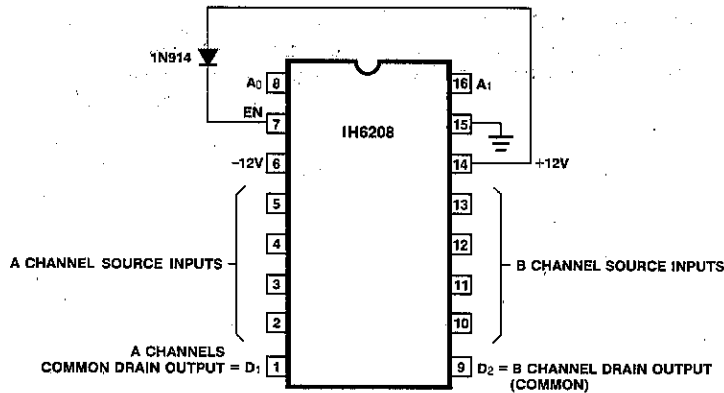

Figure 6. IH6208 Connection Diagram for less than $\pm 15V$ Supply Operation.
Caution must be taken to ensure that the enable (EN) voltage is at least 0.7V below V^+ at all times. If this is not done the Address input strobing levels will not function properly. This may be achieved quite simply by connecting EN (pin 2) to V^+ (pin 14) via a silicon diode as shown in Figure 6. A further requirement must be met when using this type of configuration; the strobe levels at A0 and A1 must be within
2.5V of the EN voltage in order to define a binary "1" state. For the case shown in Figure 6 the EN voltage is 11.3V, which means that logic high at A0 and A1 is $+8.8V$ (logic low continues to be $= 0.8V$). In this configuration the IH6208 cannot be driven by TTL (+5V) or CMOS (+5V) logic. It can be driven by TTL open collector logic or CMOS logic with +12V supplies.